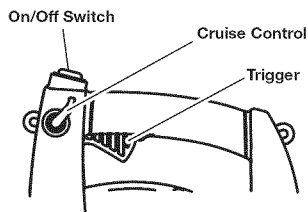

Fig. 11
NOTE: The unit should be started in idle. Do not squeeze the trigger until step 7 (Fig. 11).
7. Squeeze and hold the trigger, or press down the cruise control (Fig. 11), and allow the engine to warm up for 30 to 60 seconds.
2. Press and hold the On/Off switch in the OFF (O) position until the unit comes to a complete stop (Fig. 11).
NOTE: The unit should be started in idle. Do not squeeze the trigger until step 9 (Fig. 11).
9. Squeeze and hold the trigger, or press down the cruise control (Fig. 11), and allow the engine to warm up for 30 to 60 seconds.